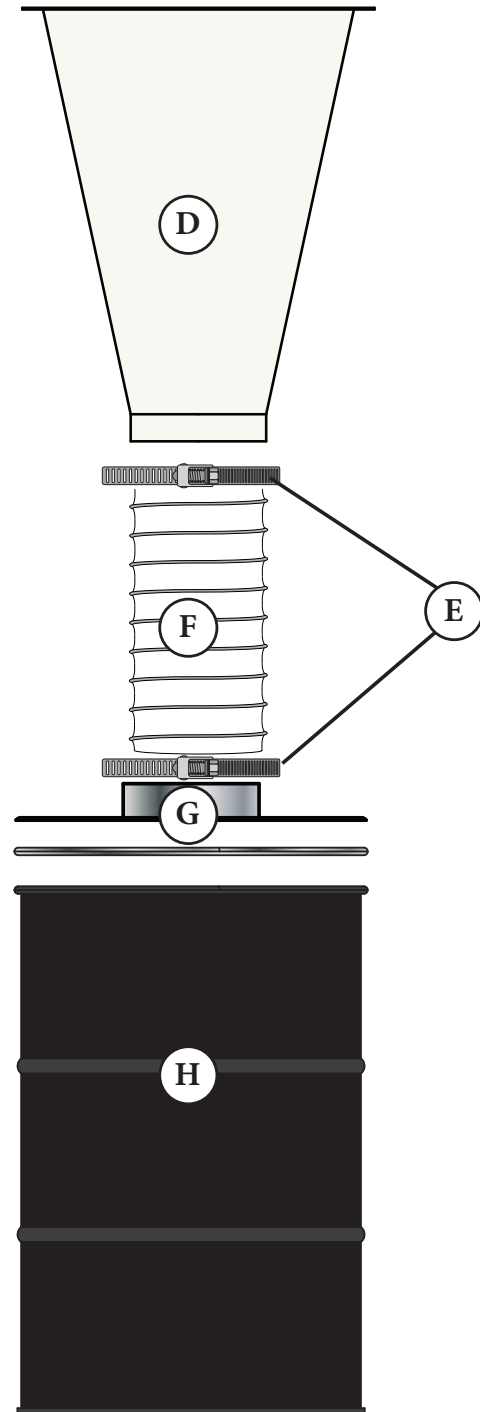

FIG. 17
Attach Hose (F) to the Cone's (D) discharge, and secure it in place with the Clamp Band (E). [FIG. 17]